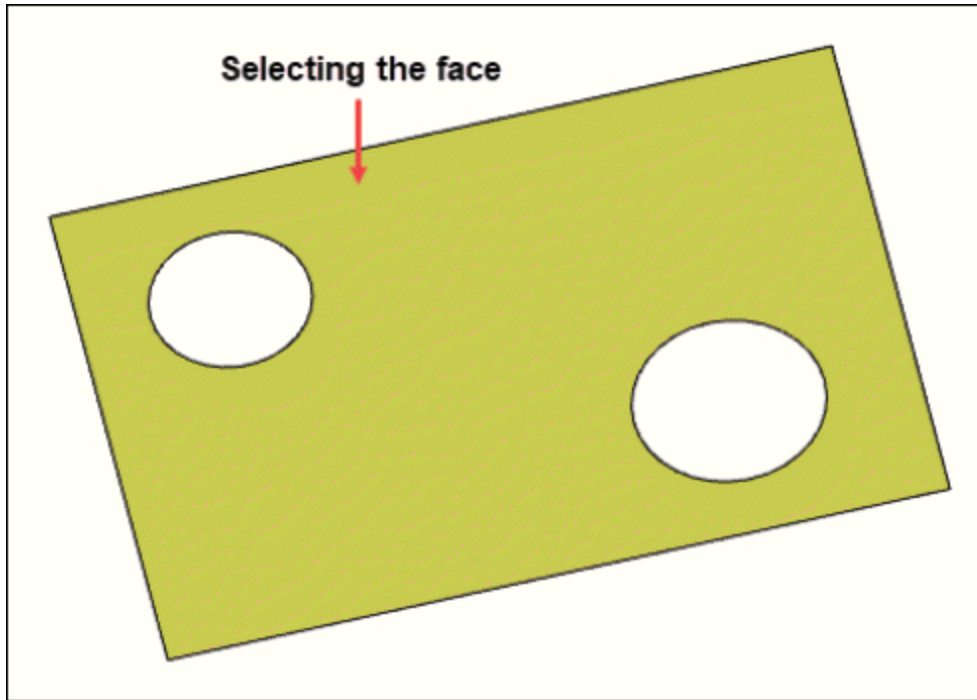
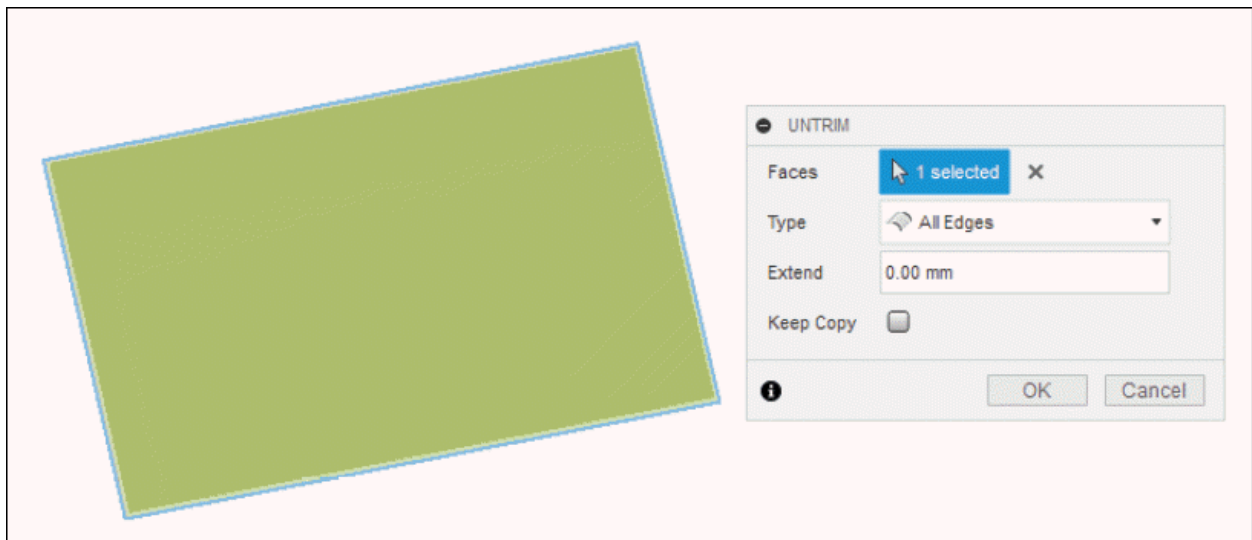

Figure-21. Selecting the face to be untrimmed
Figure-22. Updated UNTRIM dialog box
- Select desired face of the model which you want to be untrimmed; refer to Figure-21. The updated **UNTRIM** dialog box will be displayed with the face untrimmed; refer to Figure-22.